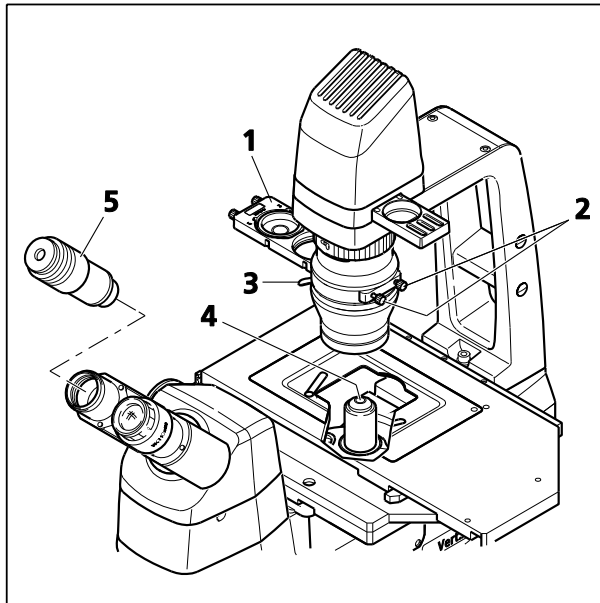
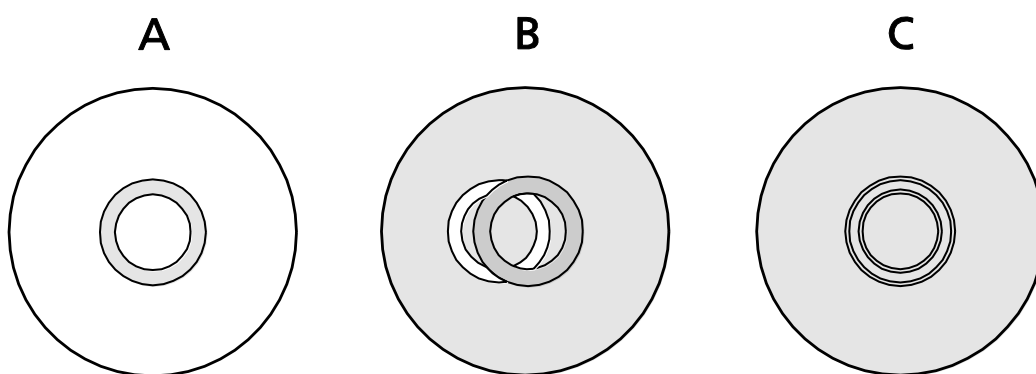

Fig. 4-4 Setting Phase Contrast
Fig. 4-5 Centering the Phase Ring Diaphragm (Bright in the Condenser) to the Phase Ring (Dark in the Objective)
- Rotate the objective for phase contrast (Fig. 4-4/4) into the light path.
- Open the aperture diaphragm (Fig. 4-4/3) of the condenser completely.
- Instead of the eyepiece, insert the auxiliary microscope (Fig. 4-4/5) into an eyepiece tube and render the phase rings of the objective visible by focusing its eye lens.
The phase ring of the phase contrast objective appears as a gray ring in the bright pupil (Fig. 4-5/A).
- Move the phase stop of the slider (Fig. 4-4/1) into the light path (or, on the condenser with modulator, rotate the position with the phase stop into the light path).
The phase ring of the objective will appear centered in the field of view, while the bright phase stop may be off-center (Fig. 4-5/B).
- Use the relevant centering screws (Fig. 4-4/2) on the slider to line up the phase ring and the phase stop. Make sure that the gray phase ring of the objectives fully covers the bright phase stop (Fig. 4-5/C).